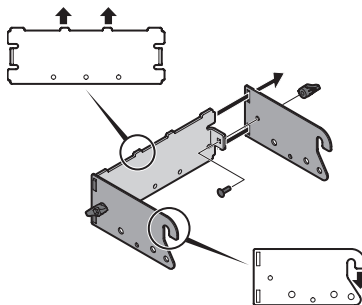

Figure 4
1. Attach the two hitch side brackets to the rear support bracket (rider hitch bracket assembly 689-00304A) using two carriage bolts (710-0276) and wing knobs (720-04122) from hardware pack 689-02364. See Figure 4.
**NOTE:** Hooks on side brackets should point downwards and tabs on rear support bracket point upwards as shown in Figure 4.